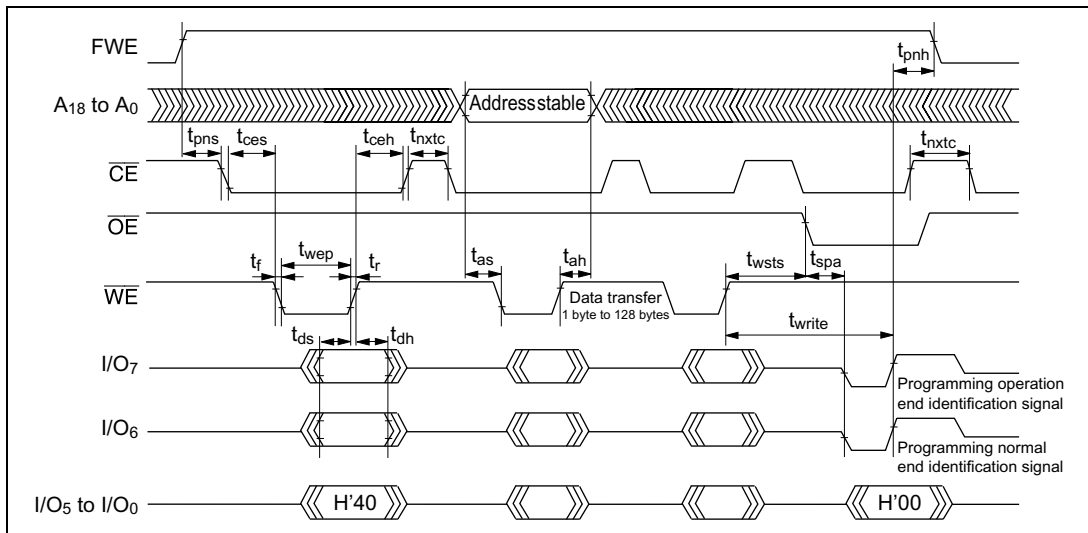

Figure 19-82 Auto-Program Mode Timing Waveforms
- Memory address transfer is executed in the second cycle (figure 19-82). Do not perform transfer later than the second cycle.